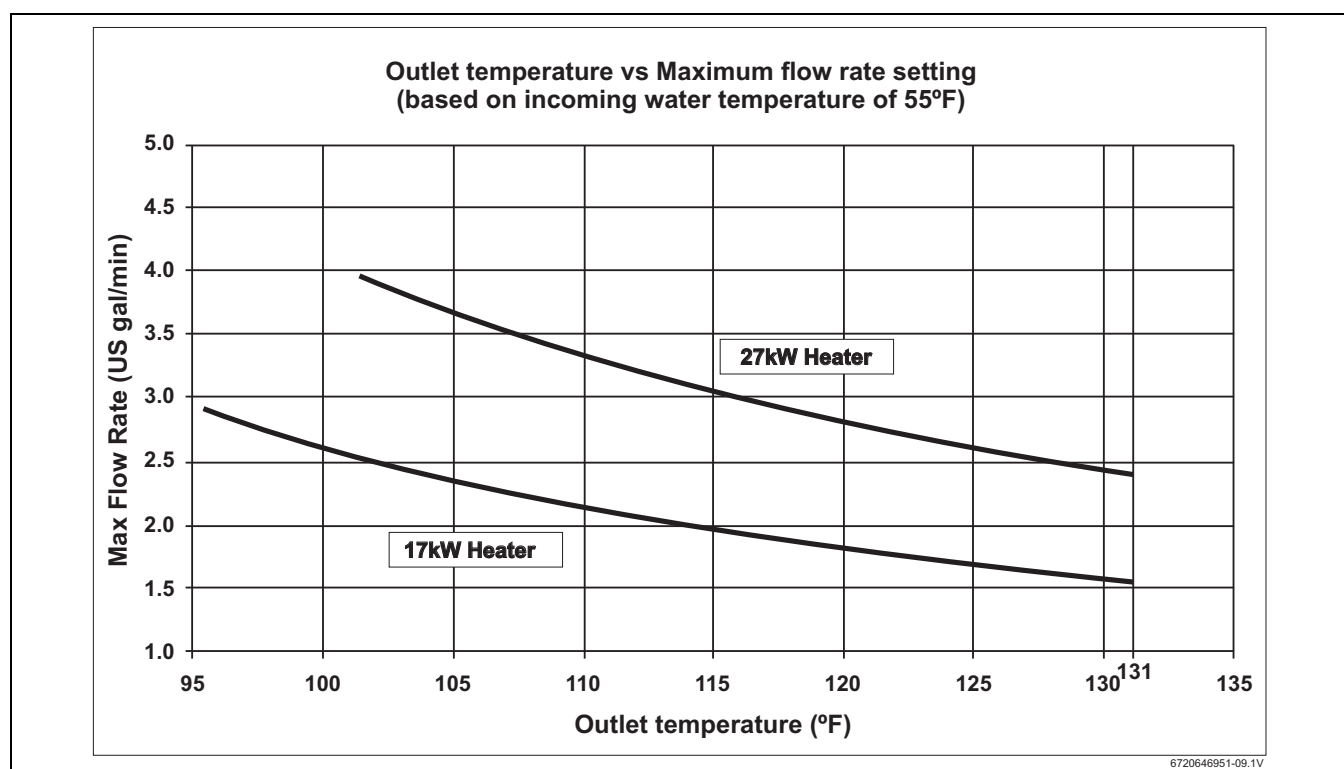

Fig. 11
- ▶ Adjust the outlet shut-off valve until the water flow rate from the hot faucet corresponds to the value given in Fig. 11 below.
These figures are based on an inlet water temperature of 55 °F and a supply voltage of 240 volts. If the inlet water temperature is lower than 55 °F, or if the supply voltage is less than 240 volts, then the outlet temperature will be lower than what is shown in Fig. 11. If a higher outlet water temperature is desired, then reduce the flow rate and/or supply the unit with 240 volts.
The inlet water temperature is too cold	Verify the heater is sized appropriately for it's geographic location. Turn temperature knob located on the bottom of the water all the way clockwise for maximum temperature setting. Ensure flow rates are within the heater's specifications. Refer to Fig. 11 on page 17 of the manual. Use of an isolation valve on the hot water outlet to control flow rate is recommended.
Temperature dial is turned too low	Turn the temperature dial located on the bottom of the water heater clockwise for hotter temperatures. Refer to Fig. 11 for outlet temperature vs. flow rate variance.
Water flow is too high	Adjust water flow to stay within the water heater's specifications. See Fig. 11 of this manual.
Outlet shut-off valves are set too low	Adjust installer supplied outlet valve as described below: <ul style="list-style-type: none"> • Completely open both installer supplied inlet and outlet shut-off valves at the heater. (if none installed, install before proceeding). • Completely open hot water on the highest flowing hot water fixture served by the heater (i.e. bathtub). • Slowly close the outlet shut-off valve, slowing the water flow rate until the temperature at the hot water faucet corresponds to the values given on Fig. 11 of the manual, or desired water temperature is reached.
Changing flow rate. Water supply connected to the outlet of the unit.	Major changes in flow rate can adversely affect the output water temperature of the heater. Increases from one major fixture running to multiple fixtures running at one time can cause the temperature to fluctuate. Stay within the heater's specifications. See Fig. 11.